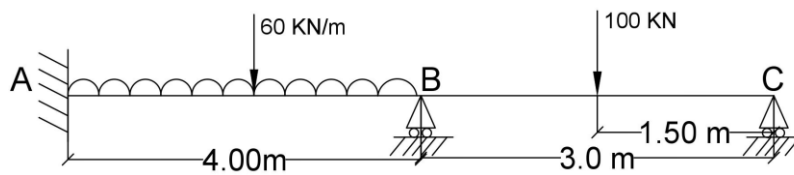

Figure 4.2
2. Analyze the continuous beam shown in figure 4.2. by flexibility matrix method. Draw the bending moment diagram. Take EI is constant throughout.